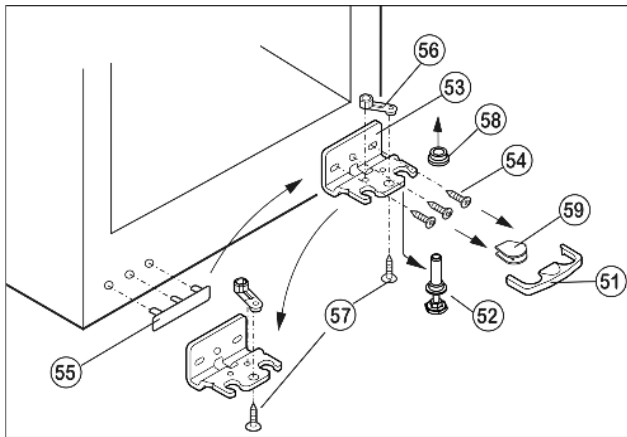

Fig. 16
- ▶ Draw the safety lock *Fig. 16 (51)* forwards for removal.
- ▶ Remove the cover *Fig. 16 (59)*.*
- ▶ Fully retract the adjustable-height foot *Fig. 16 (52)*.
- ▶ Pull out the bearing pin *Fig. 16 (52)* downwards and forwards. In so doing, pay attention to the hinge bush *Fig. 16 (58)*.
- ▶ Unscrew the turn hinge *Fig. 16 (53)*(3 x Torx 25) *Fig. 16 (54)*.
- ▶ Unscrew the bearing part *Fig. 16 (56)*(1 Torx 25) *Fig. 16 (57)*, transfer it to the opposite hole in the turn hinge and screw it down again.
- ▶ Carefully lift off and transfer the cover *Fig. 16 (55)* on the handle side.
- ▶ Screw the turn hinge *Fig. 16 (53)* firmly into place on the new hinge side, possibly using a cordless screwdriver (with 4 Nm).
- ▶ Place the cover *Fig. 16 (59)* on the opposite side.*
- ▶ The safety lock (51) has to engage with the turn hinge at the side so that the bearing pin and therefore the door are secured.
- ▶ Snap the safety lock (51) onto the turn hinge again.
- ▶ Put on the hinge bush *Fig. 16 (58)*.